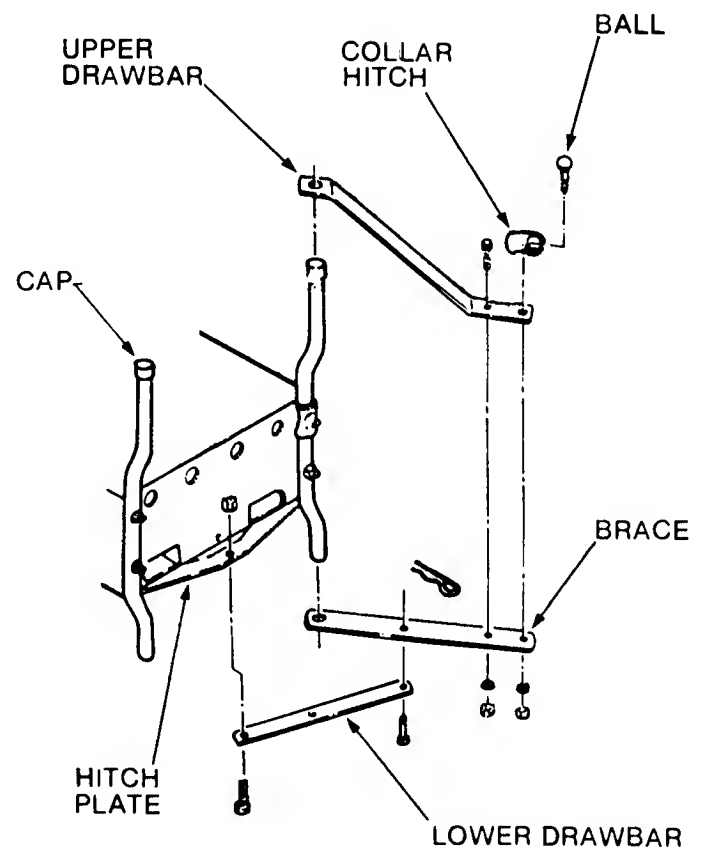

FIG. 2 - DRAWBAR HITCH INSTALLATION
2. **DRAWBAR-HITCH INSTALLATION:*** Remove the cap from the top of the right rear bumper and install hitch parts as shown in figure 2. Place the upper drawbar over the top of the right bumper and the brace over lower end of this bumper. Secure these two items with a 3/8-24x1 hex head capscrew, 3/8 split lockwasher and 3/8-24 hex nut as shown. The collar hitch and ball can now be installed and secured as shown. Make sure that the shoulder on the hitch ball bottoms against the upper surface of the upper drawbar. Bolt the lower drawbar to the center hole in the hitch plate of the Rider. Secure these items with a 1/2-20x1 hex head capscrew and 1/2-20 hex locknut. Tighten these completely then back off on the nut about 1/2 turn to allow the lower drawbar to swing freely. Position the lower drawbar under the center brace, align holes and secure these with the hitch clevis pin and hair pin on top of brace.